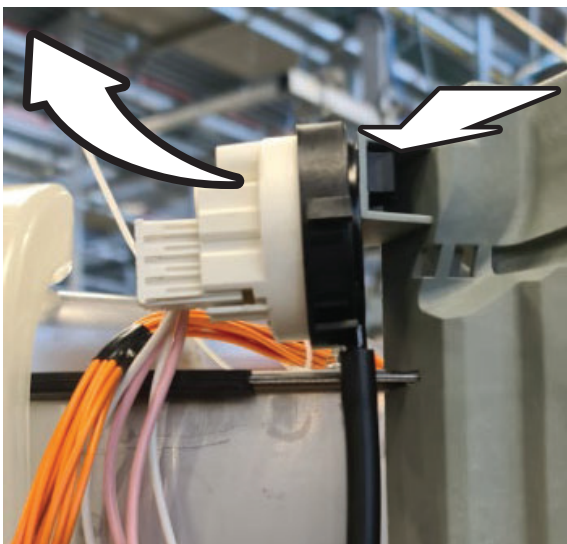

Fig. 3
2. Remove the wiring connectors to the user interface and unscrew all the screws which fix the user interface cover to the top panel (Fig. 3).